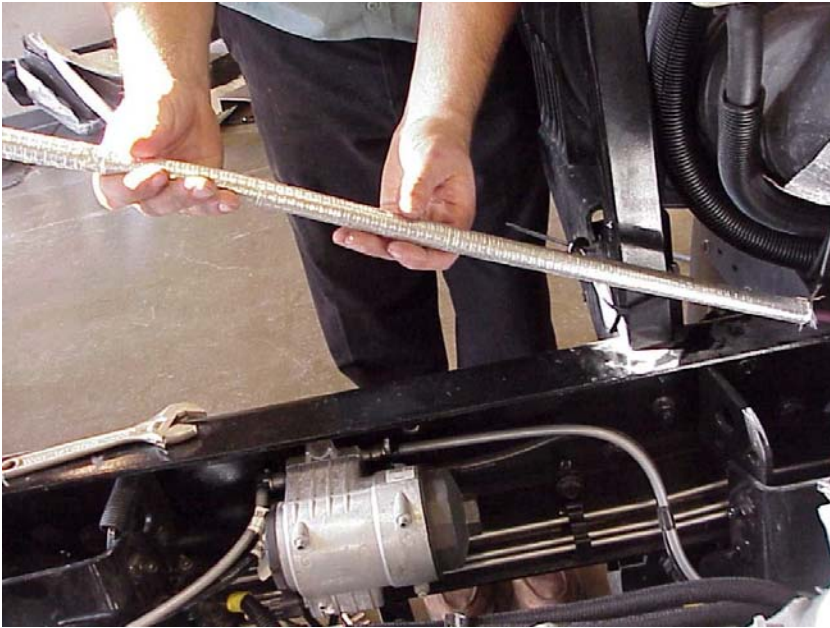
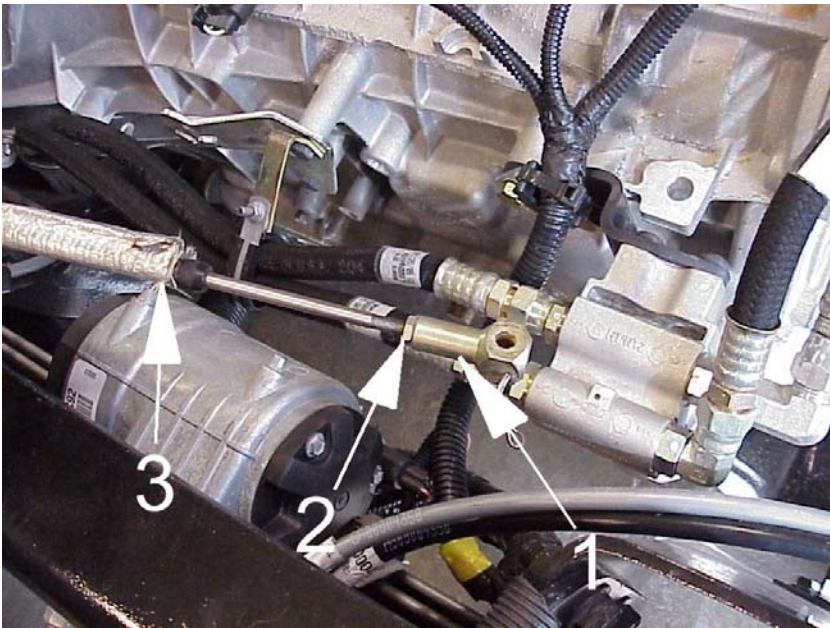

Figure 4 Install (Slide) Heat Shield onto Shift Cable
Figure 5 Heat Shield Properly Installed
6. Mark the position of the adjuster jam nut on the shift cable (Figure 5, Item 2) and remove the adjuster (Figure 5, Item 3) from the end of the shift cable.
7. Install (slide) heat shield, Part Number 3565208R1, onto the shift cable (Figure 4) until the adjuster end of the shift cable is as shown in Figure 5. Install a cable lock strap, Part Number 289862C1, at each end of the heat shield.